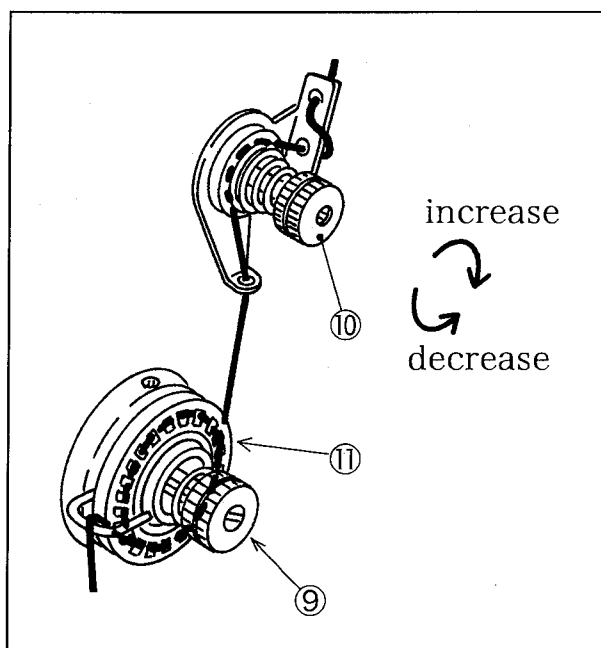

Fig.28
To prevent a *slippage of an upper thread on the tension ⑨ in Fig.28, turn the nut ⑩ and adjust the thread tension.
- To increase the tension, turn the nut ⑩ clockwise.
- To decrease the tension, turn the nut ⑩ counterclockwise.